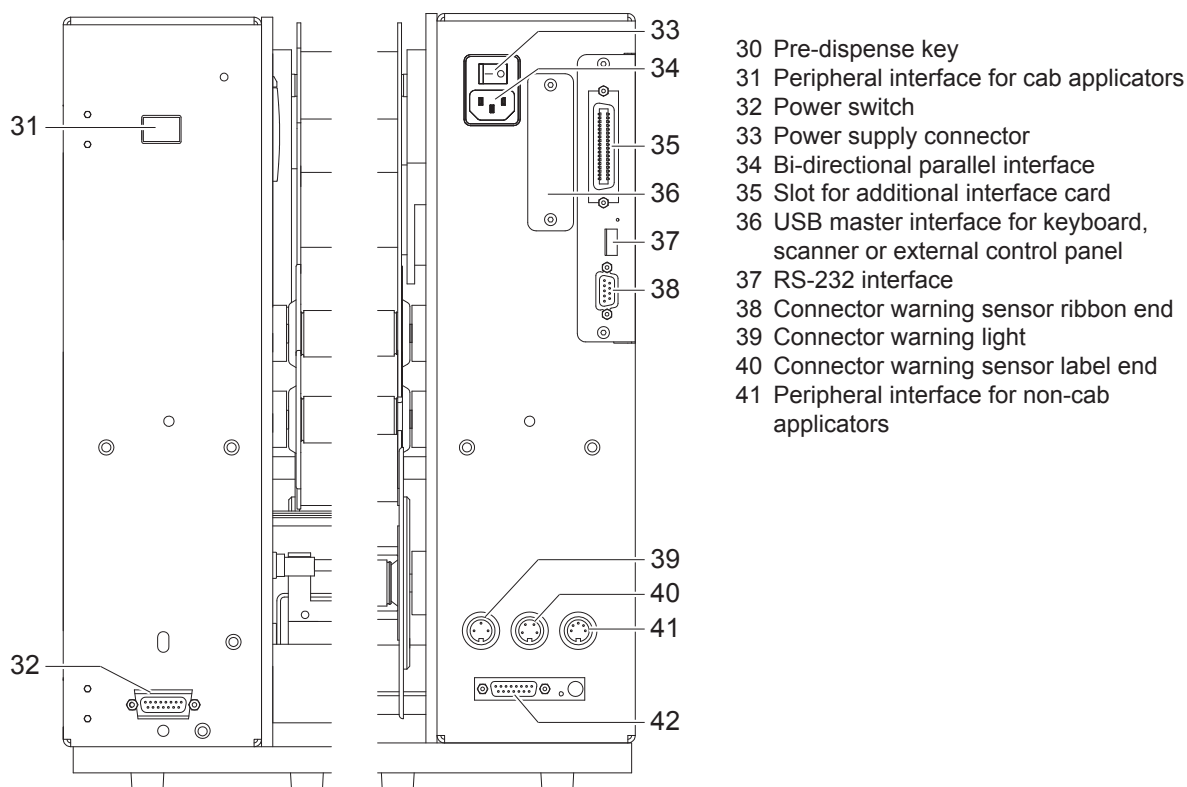

Fig. 3 Connections
2. Plug the power cable into the power connection socket (34 / Fig. 3).
- ▶ Switch the printer on at the power switch (33 / Fig. 3).